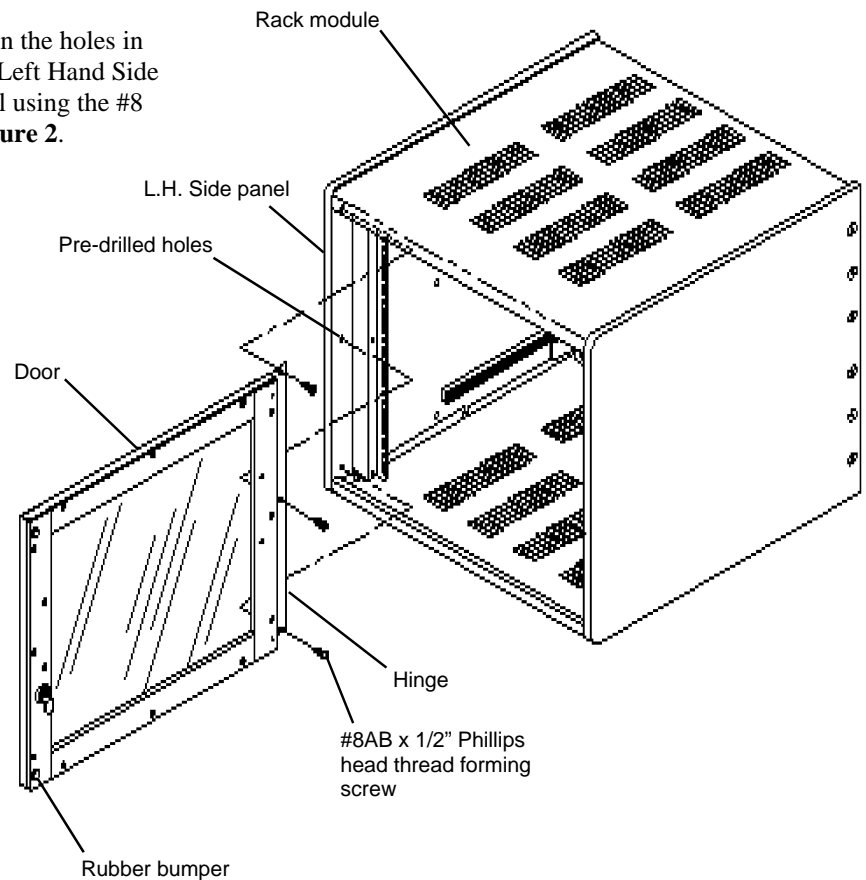

Figure 2
2. With one person holding the Door, align the holes in the Hinge with the pre-drilled holes in Left Hand Side Panel. Fasten the door to the Side Panel using the #8 AB x .50 Phillips head screws. See **Figure 2**.